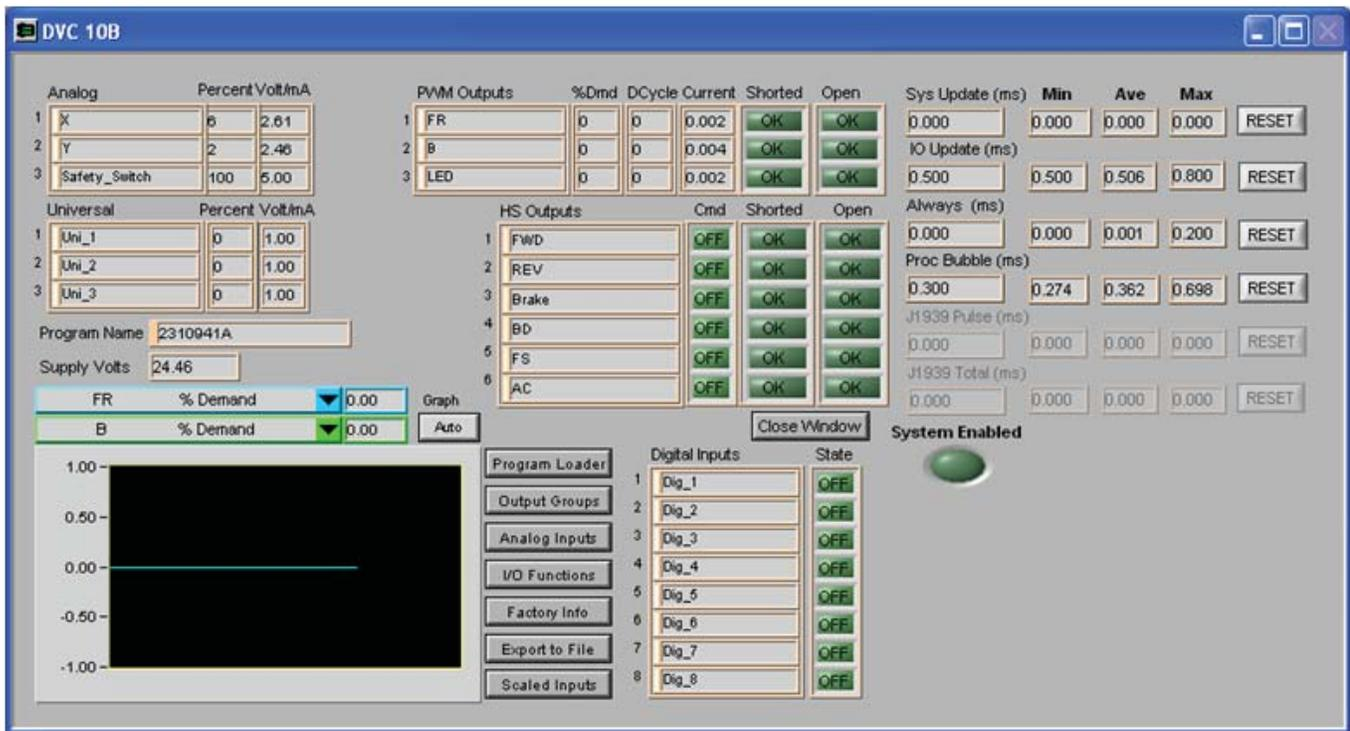

Figure 3-32 DVC10 Monitor Window
15. Click the "Close Window" button on the right of the screen to bring up the Main Menu window to exit the Monitor (see Figure 3-32). Select the Quit button to exit the Program Loader.